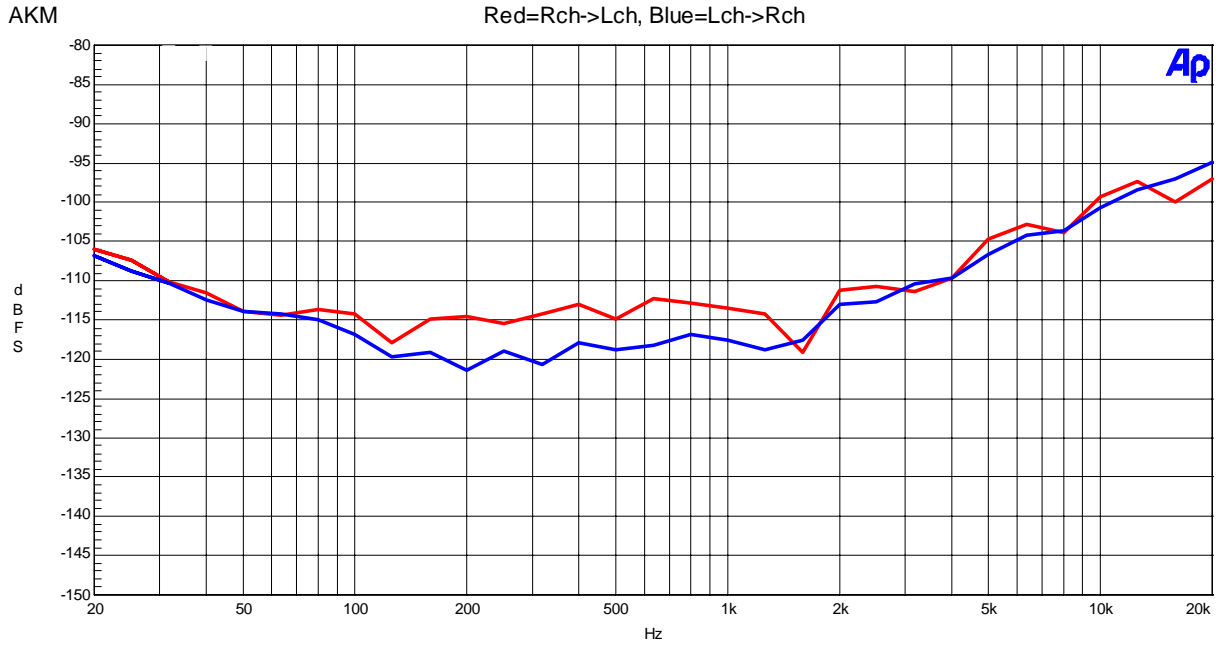

Figure 14 Crosstalk (Upper@1k = Rch, Lower@1k = Lch)
- Figure 14 Cross-talk (Input level=0dBFS)